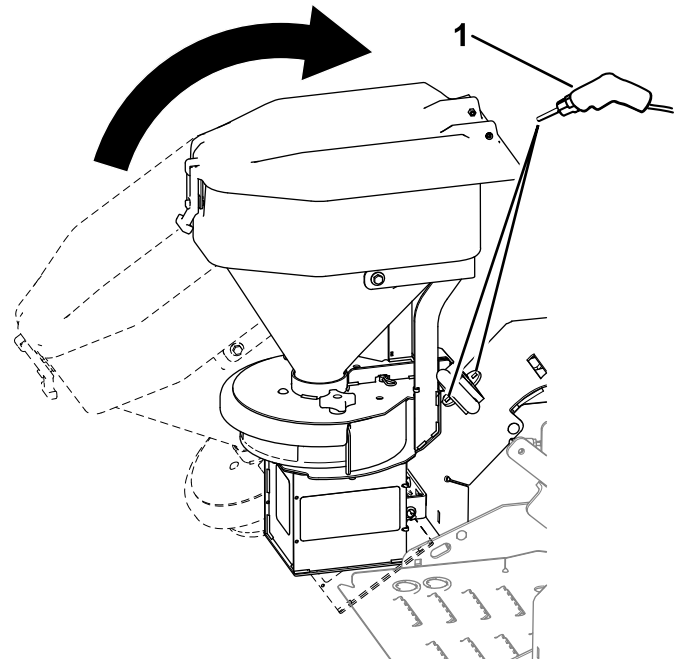

Figure 10
- Rotate the spreader into the desired position so that the mounting bracket is flat against the fender surface and the holes in the bracket are 3-3/4 inches away from the edge of the fender (Figure 10).
- Using the mounting holes, mark and drill 2 holes (3/8 inch) (Figure 10).